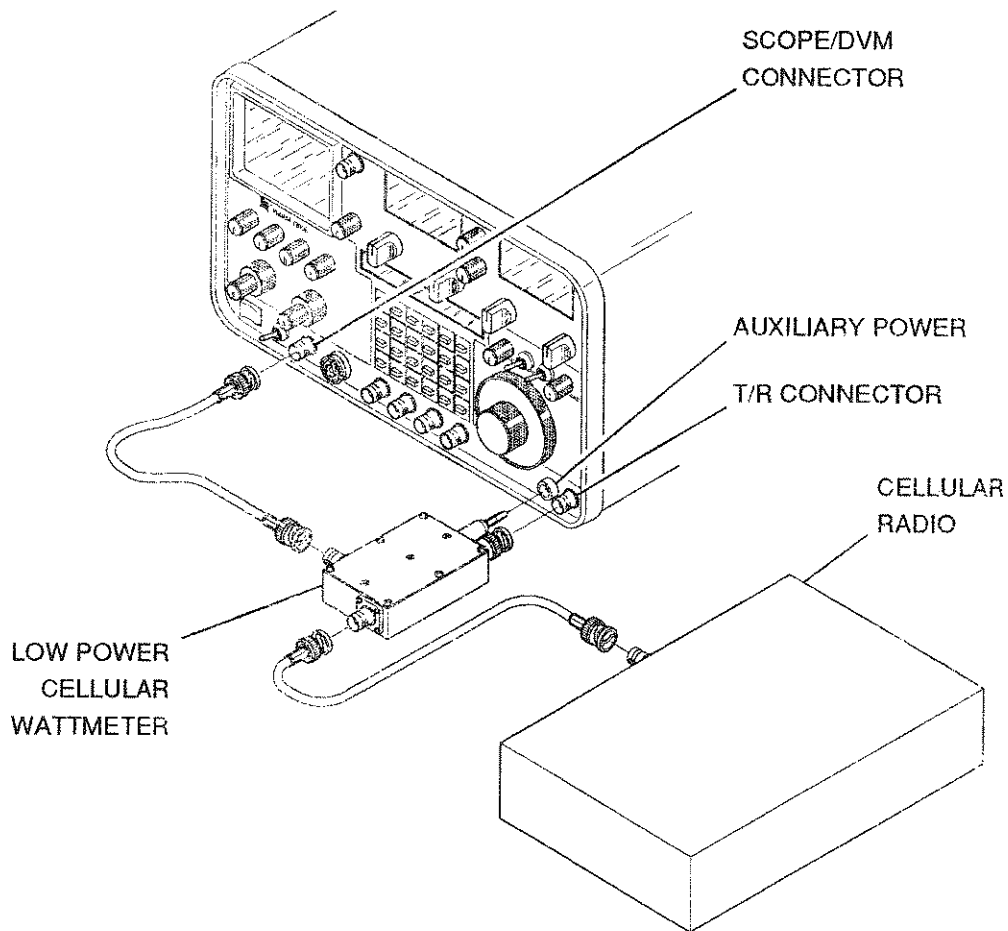

Figure 5-9A Cellular Powermeter Test Hookup Diagram.
2.	Connect the Cellular Wattmeter per Figure 5-9A.
3.	Adjust VAR Tone Level Control (6) for an indication of 2 kHz deviation (1.7 kHz deviation for ETACS units) on the MODULATION Meter (1).